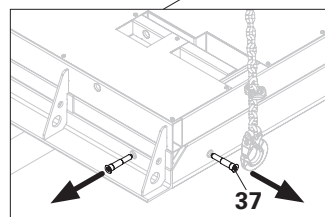

Fig. D2.05a
2. Unscrew and remove 2 fixing bolts (37) each from all 4 corners. (Fig. D2.05a)